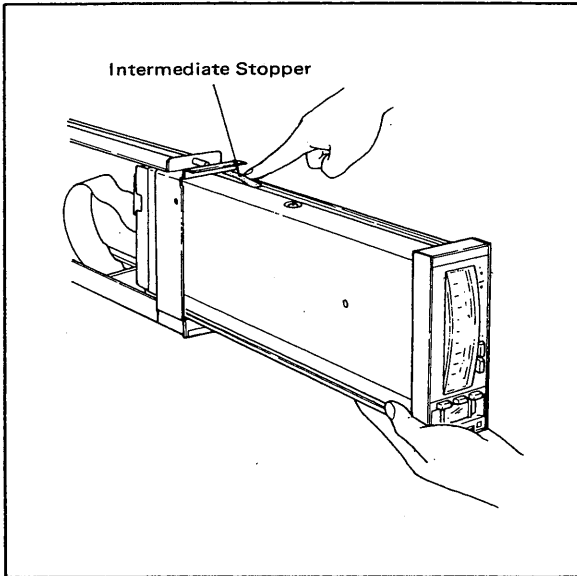

Figure 5-2-2. Removing the Instrument Module.
- (2) To remove the instrument from the housing, push down on the intermediate stopper while pulling the instrument module out of the housing as shown in Figure 5-2-2.
- (b) Move the manual control lever left (or right) to adjust the output level. (Refer to Figure 5-2-2.)